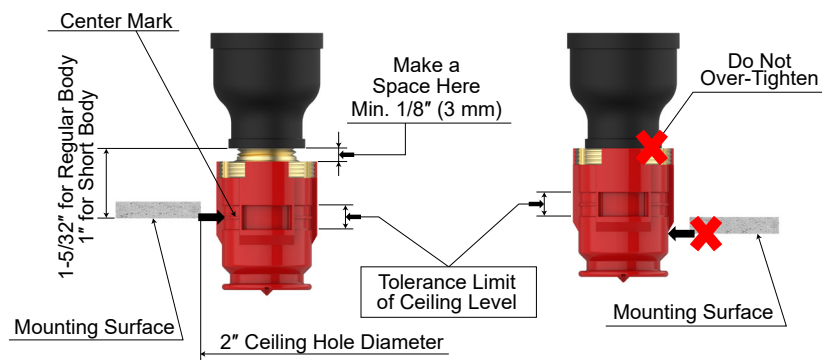

Figure 3: Installation
Step 2: Install the sprinkler fitting so that the distance from the face of the fitting to the mounting surface will be nominally 1- 5/32 inch as shown in Figure 3.
Step 5: Use the "tolerance limit of ceiling level" indicator on the Protective Cap to check for proper installation height (Ref. Figure 3). Relocate the sprinkler fitting as necessary. If desired the Protective Cap may also be used to locate the center of the clearance hole by gently pushing the ceiling material against the center point of the Cap.